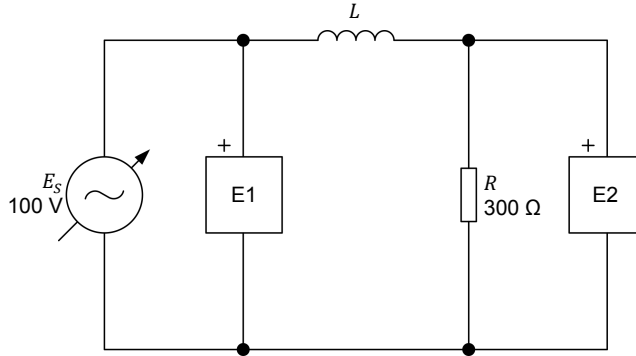

Figure 1-15. AC circuit with a resistor and an inductor.
- Set up the circuit shown in Figure 1-15. This circuit contains a resistor R and an inductor L . Inductors are studied in the next unit of this manual.
The value of inductor L in the circuit of Figure 1-15 is referred to as the inductance and is expressed in henries (H). The inductance value to be used depends on the frequency of the ac power source as is indicated in Table 1-2.